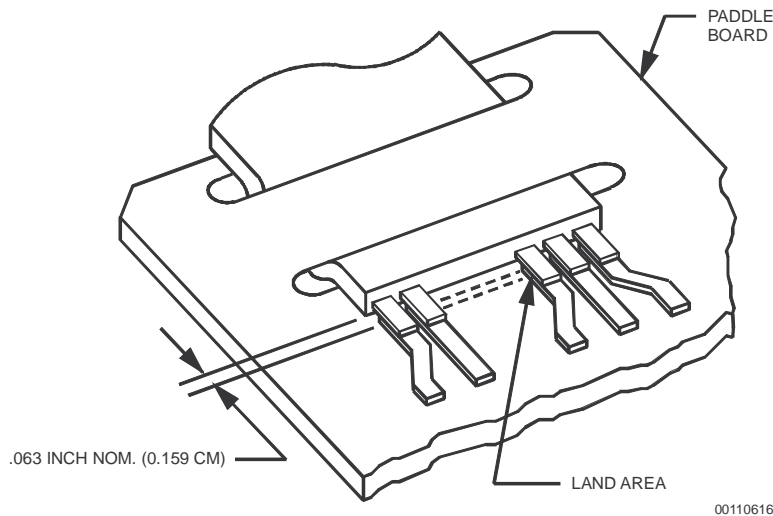

Figure 2 Flat Cable Lap Joint
Paddle board. As referred to herein, paddle board shall mean a printed circuit board upon which the flat cable is terminated. (See Figure 2.)
- 1.5 Lap joint terminations (rectangular conductors). Figure 2 illustrates a lap joint connection of cable connectors and paddle board land areas.
(See Figure 2.)